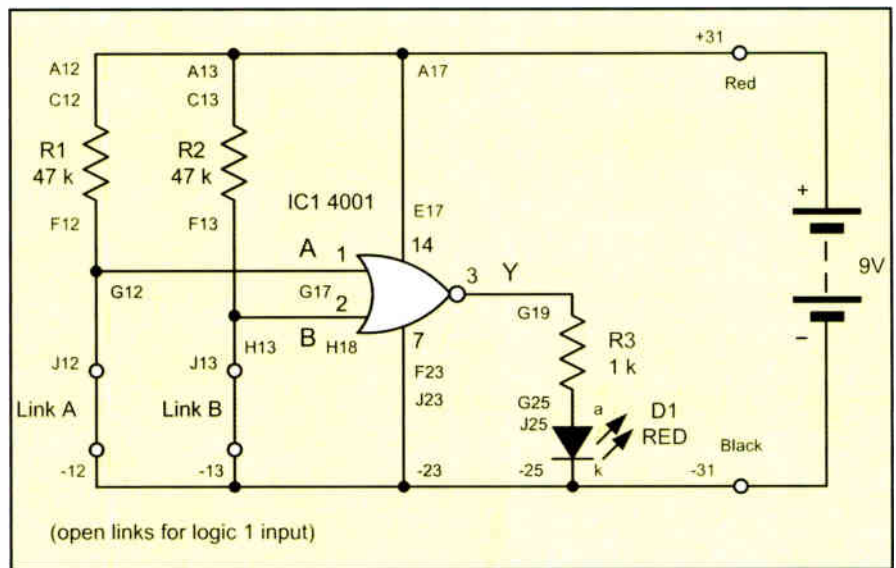

Fig.8.29. Circuit diagram for Practical Investigation 8.1
**Circuit diagram:** See Fig.8.29